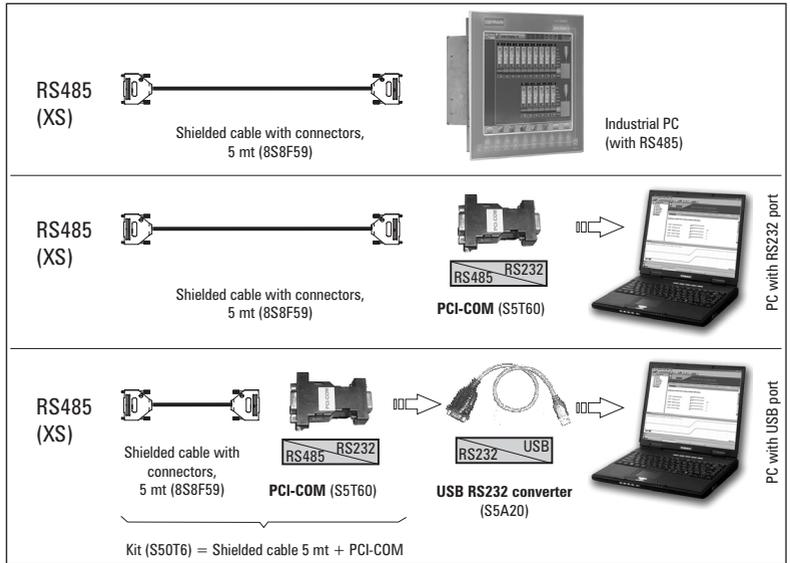

Figure 5.5.1.2: Collegamento RS485 al PC
- shielded cable for the **XS / RS485** connection (see figure 5.5.1.1), code 8S8F59
- shielded cable for **XS / PCI-COM** (or PCI-485) connection, code 8S8F59, see figure 5.5.1.1 .
- shielded cable for the **XS / PCI-COM** (or PCI-485) connection, code 8S8F59, see figure 5.5.1.1 .